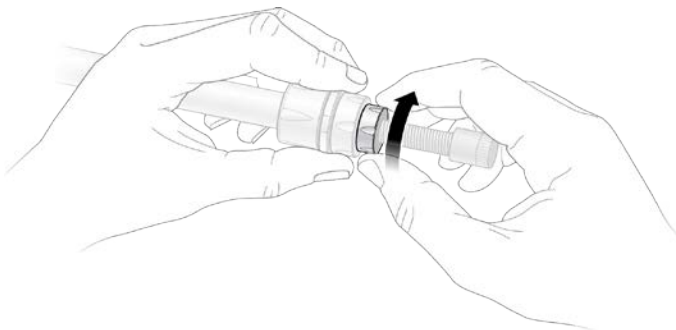

Fig. 4. Loosen the lock nut by turning it clockwise.
3. Loosen the lock nut turning it clockwise (Figure 4).